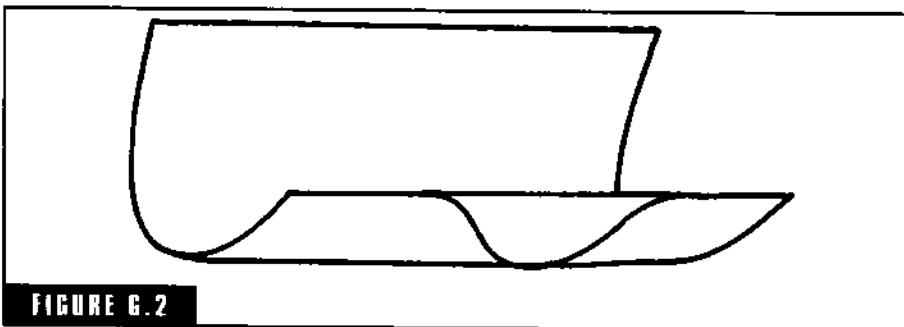

FIGURE G.2
**gate cutter** The best gate cutter is made from a section of a tobacco can (Fig. G-2).